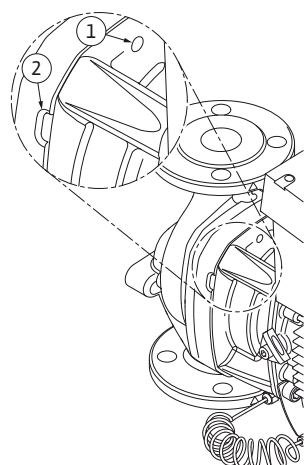

Fig. 46: Threaded holes and slots for pressing off the motor impeller unit from the pump housing
13. Press the motor impeller unit (see Fig. 12) off the pump housing. It is a good idea to use two threaded holes (Fig. 46, Item 1) for this; particularly to loosen the seating. Screw two suitable screws into the threaded holes to loosen the seating. If the motor impeller unit can be moved easily, slots (Fig. 46, Item 2) between the pump housing and the lantern can also be used for pressing off (for example, use two screwdrivers as levers to do this). After pressing out about 15 mm, the motor impeller unit will no longer be guided in the pump housing.